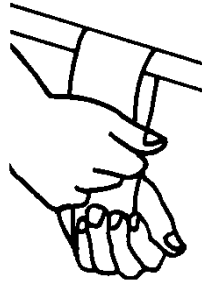

FIG 5
- 4.1.2. Sand in direction of the grain as shown (FIG 5).